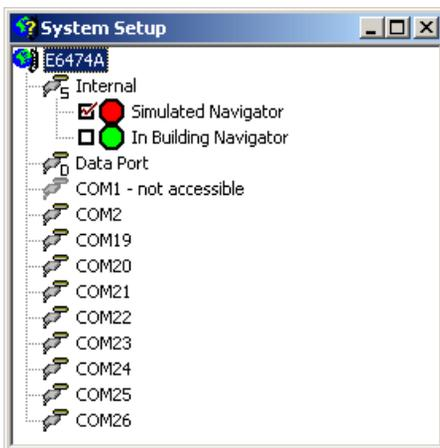

Figure 40 System Setup view
- 2 A System Setup View opens showing available COM ports and navigation options. Refer to Figure 40.